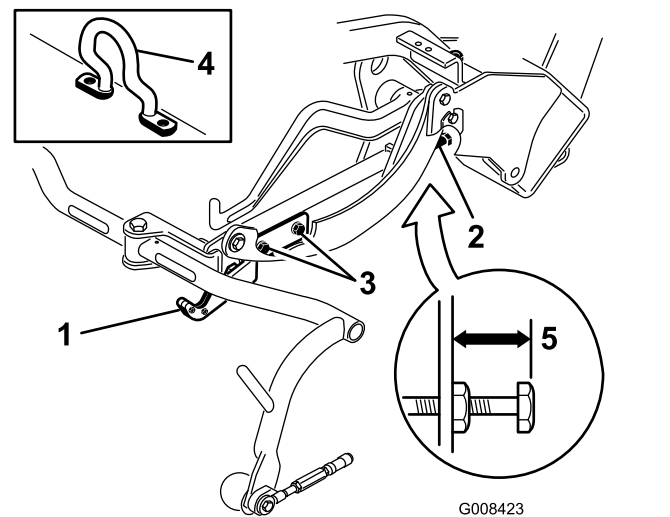
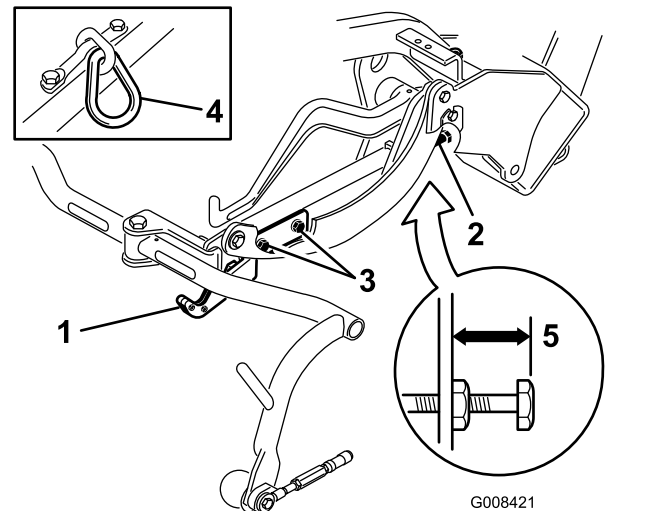
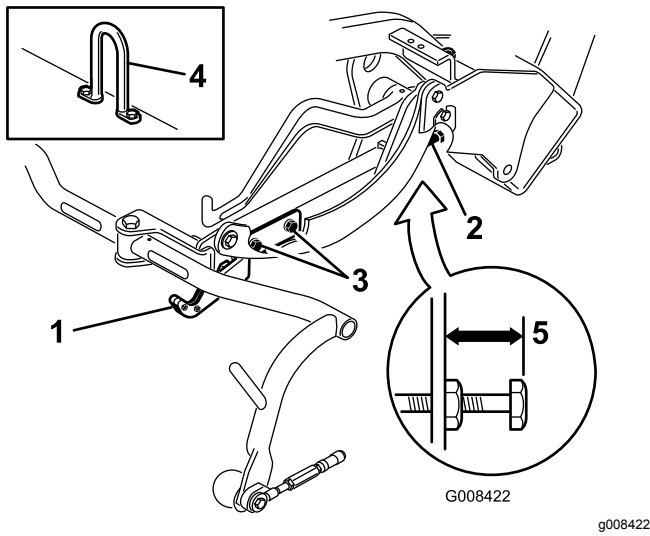

Figure 12
Figure 13
Figure 14
Check the transport height (Figure 13 and Figure 14) and adjust it if required.
2. On cutting units equipped with a offset lift hook (Figure 12 inset), verify that the distance from the top of the carrier frame adjusting screw to the back of the carrier frame is 25 mm (1 inch). If the distance is not 25 mm (1 inch), proceed to step 4.
3. On cutting units equipped with a chain link or a straight lift hook (Figure 13 and Figure 14 insets), verify that the distance from the top of the carrier frame adjusting screw to the back of the carrier frame is 22 mm (7/8 inch). If the distance is not 22 mm (7/8 inch), proceed to step 4. If the cutting unit is equipped with an offset lift link (Figure 12), proceed to the next step.
4. Loosen the transport plate mounting screws (Figure 13, Figure 14, and Figure 12).
7. If the carrier frames are not at the same height, loosen the jam nut on the carrier frame adjusting screw (Figure 12, Figure 13, and Figure 14). Rotate the screw outward to raise and inward to lower. Tighten the jam nut after you obtain the proper height.